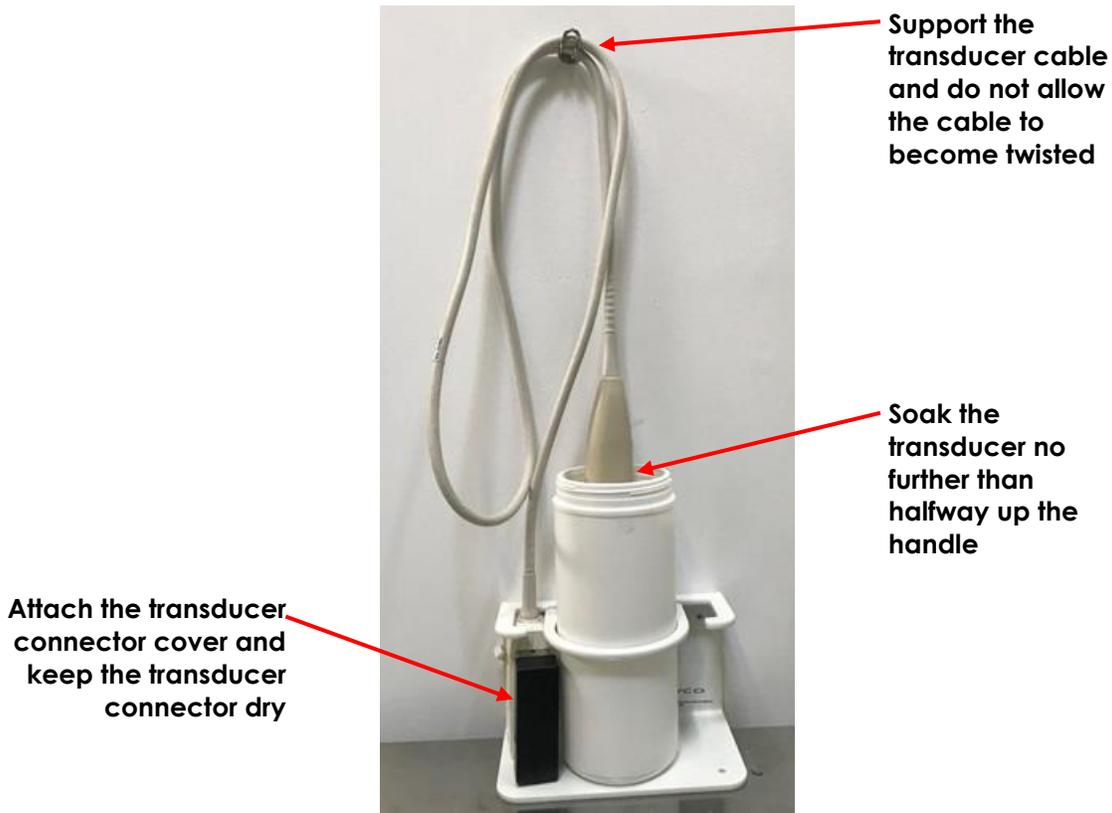

Figure 161: Correct Reprocessing Setup
3. Check that the site is handling and storing the transducers properly and the reprocessing setup protects the sensitive areas of the transducer as shown in Figure 161. Record any issues and inform Exact Imaging if re-training is required.